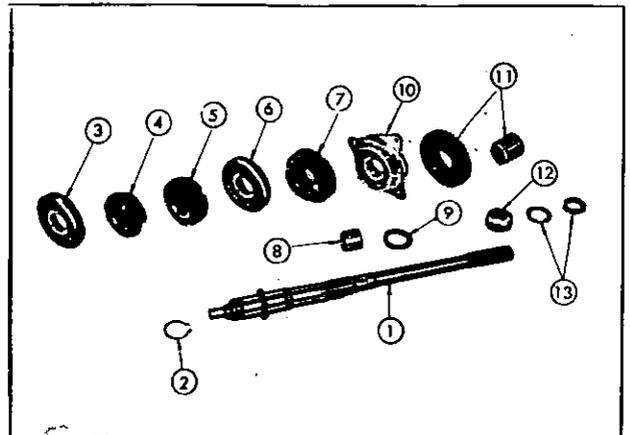

Fig. TM-14 Main shaft gear disassembled
13. Remove snap ring (2) from main shaft front side, and remove 3rd-4th synchro-assembly (3) and 3rd gear (4). See Figure TM-14 for part identification numbers.
14. Remove main shaft lock nut (13) (loosened previously), and remove reverse gear and sleeve.